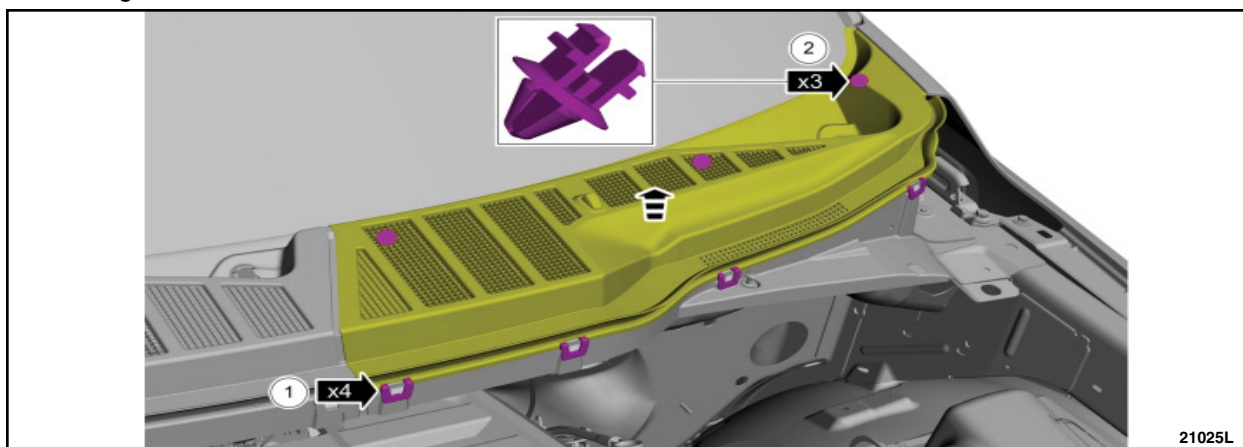

FIGURE 3
3. Release the left hand side tabs and lift the cowl trim panel to release the underside pin-type retainers. See Figure 3.